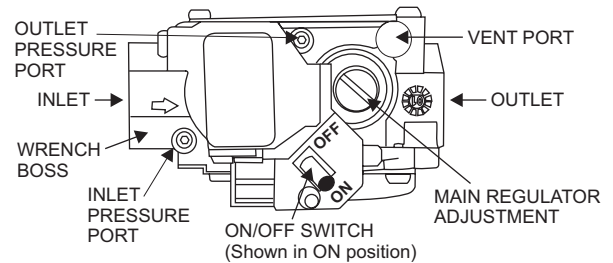

FIGURE 4: Gas Valve - All Except GR Models
- Move gas control switch to the "OFF" position. Do not force. See Figures 4 or 5.
- Wait five (5) minutes to clear out any gas. If you then smell gas, STOP! Follow "B" in the safety information above. If you don't smell gas, go to next step.
- Move gas control switch to the "ON" position. Do not force. See Figures 4 or 5.
- After three (3) trials for ignition, if the appliance will not operate follow the instructions, "TO TURN OFF THE APPLIANCE" and call your service technician or gas supplier.
- Move gas control switch to the "OFF" position. See Figures 4 or 5.